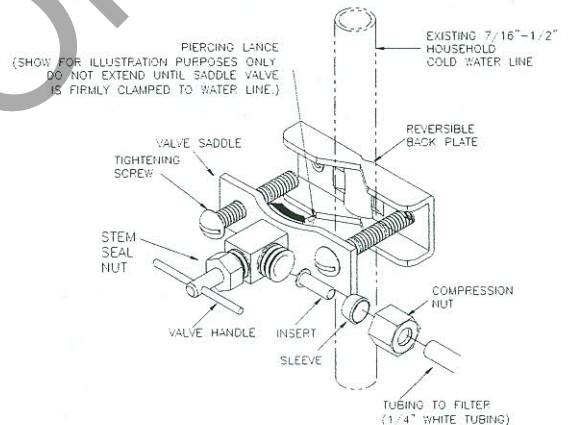

Figure 3B Saddle Tapping Valve Assembly
- 1/2" or larger tubing, use "V" side of bracket (See Figure 3B).
All instructions refer to components shown in Figure 3B unless otherwise noted.